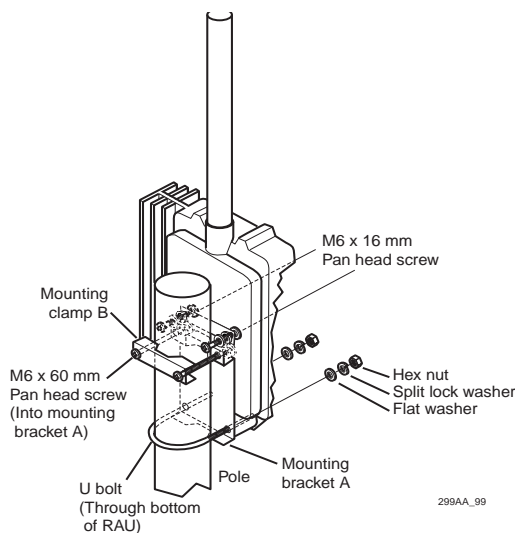

Figure 13. Attach the RAU to the pole
The installation kit contains the appropriate connectors for mounting the RAU to a pole ranging in size from 3.8 cm (1.50 inch) OD through 4.8 cm (1.90 inch) OD. The kit does not include the pole. To install the RAU on a pole, you will need the U bolt, assorted screws, and the metal mount (2 pieces). Figure 13 shows a typical pole mount.
1. Take the larger piece of the mount (mounting bracket A on Figure 13) and use the short M6 x 16 mm screws to attach the mount directly to the RAU, using the holes provided on the back of the RAU.
Washers are provided for the short M6 x 16 mm screws. Place the split lock washer next to the screw head followed by the flat washer before inserting the screws. Tighten the M6 x 16 mm screws to 300 ± 30 N-cm (26.6 ± 2.7 in lb). Using Figure 13 as a placement guide, be sure that the large oval holes on the mounting pieces and the RAU are lined up.
2. Washers are provided for the long M6 x 60 mm screws. Place the split lock washer next to the screw head followed by the flat washer before inserting the screws. Using the smaller piece of mount (mounting clamp B on Figure 13), insert the two long M6 screws through it. As shown in Figure 13, connect the mounting clamp B with mounting bracket A using the long M6 screws to connect the two pieces.
3. Fit the U bolt through the oval holes in mounting bracket A, then insert the U bolt through the RAU until the threaded ends appear at the bottom front of the RAU. Place the large flat washers, the large split washers, then the hex nuts on the ends of the U bolt with stack-up shown in Figure 13 on page 18. (When the access cover is closed, the hex nuts on the U bolt will be hidden.)